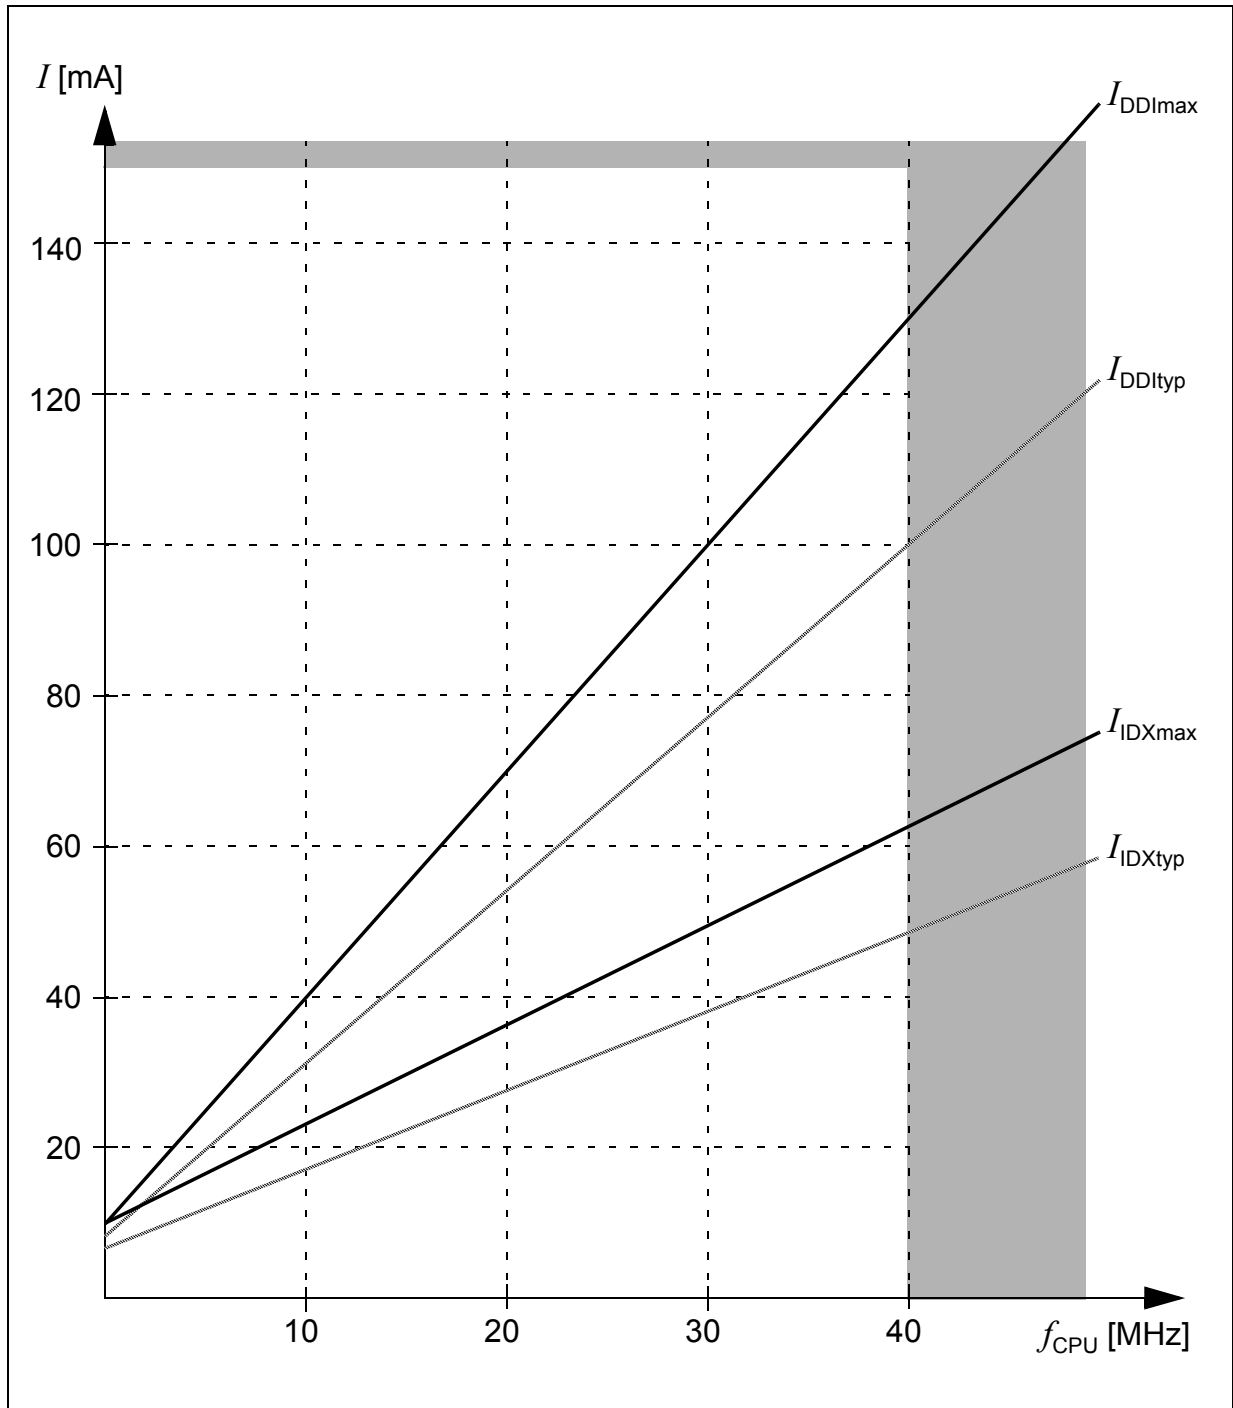

Figure 10 Supply/Idle Current as a Function of Operating Frequency
- 2) The supply current is a function of the operating frequency. This dependency is illustrated in Figure 10.